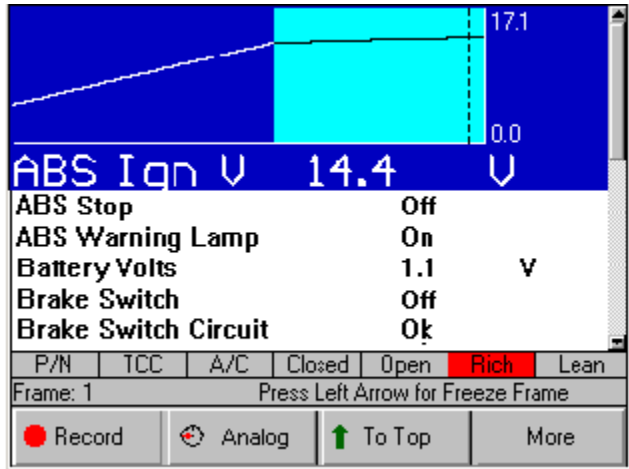

Figure 3.17: Datastream Screen - Zoom Function
- 4 Press the **ENTER** key. This magnifies the selected line, as shown in Figure 3.17.